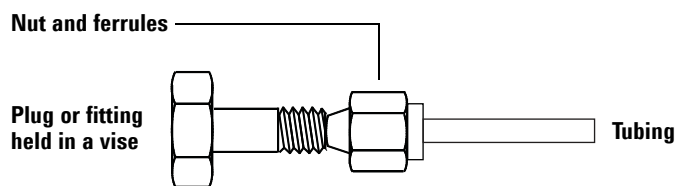

Figure 12 Assembling the fitting
- 3 Push the tubing into the stainless steel plug (Figure 12).